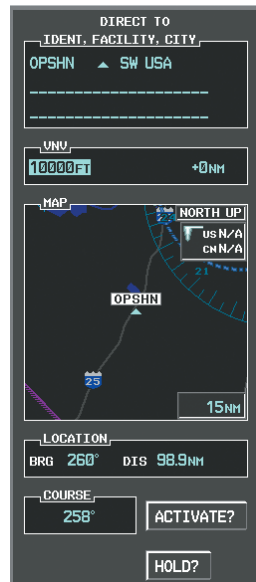

Figure 5-128 Enter VNV Altitude
d) Turn the large **FMS** Knob to place the cursor in the VNV altitude field as shown in Figure 5-128.